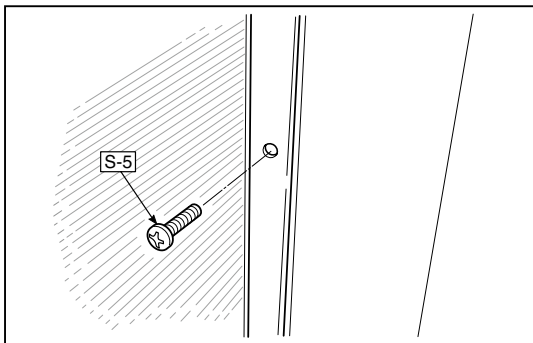

Fig.12
1. Remove the "S-5" screws shown in the figure 12. Remove 2 screws which are located on both sides of the Back Panel center.